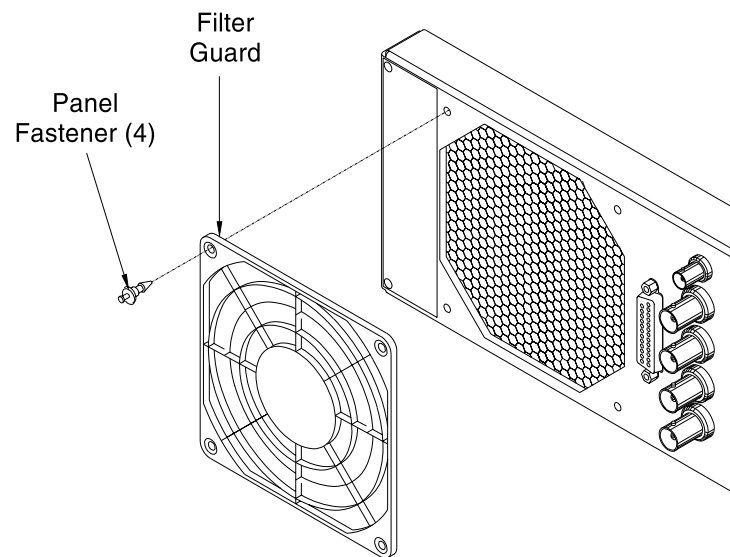

Figure 6-1. Removing/Replacing the Filter Guard
- Step 1** Remove the filter guard from the rear panel by pulling out on the four panel fasteners holding it in place (Figure 6-1).